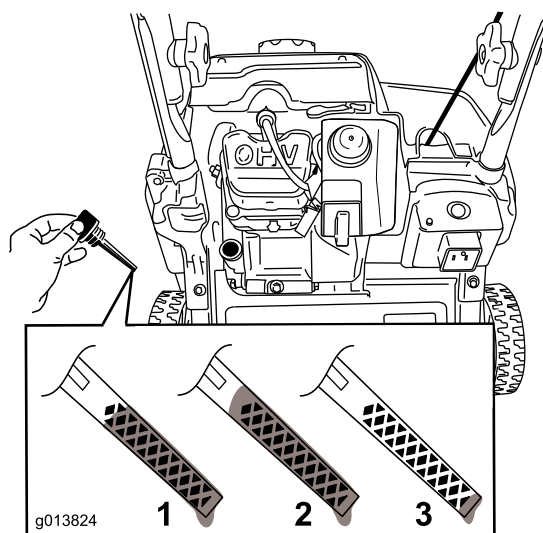

Figure 13
8. To determine the proper oil level on the dipstick, refer to Figure 13.
**Note:** Fill the engine crankcase with oil until the dipstick indicates that the engine oil level is correct as shown in Figure 13. If you overfill the engine with oil, remove the excess oil as directed in Changing the Engine Oil.